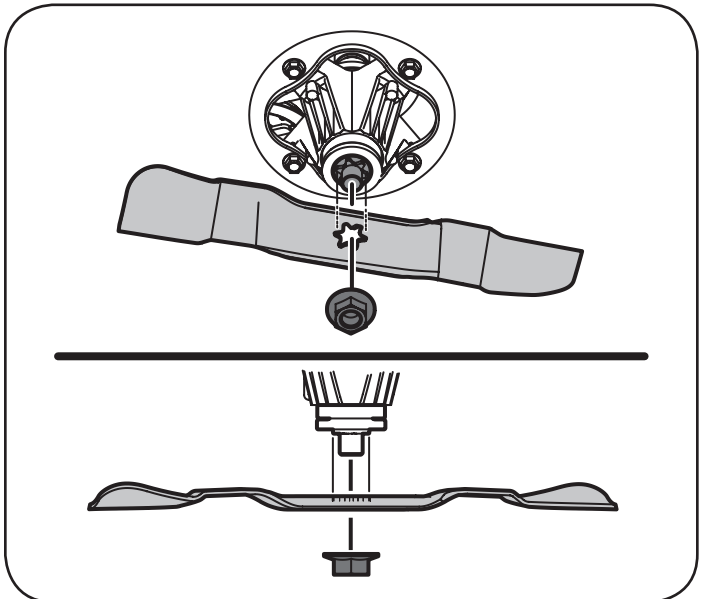

Figure 16
4. Remove the hex flange nuts that secures the blades to the spindle assembly. See Figure 16.